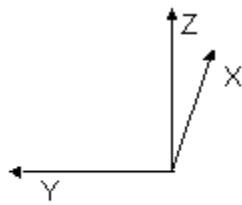

Figure 2-2. Measurement 2
- 3 Turn the system exactly 180 ° and press the keyboard's Space bar to continue. See Figure 2-2.